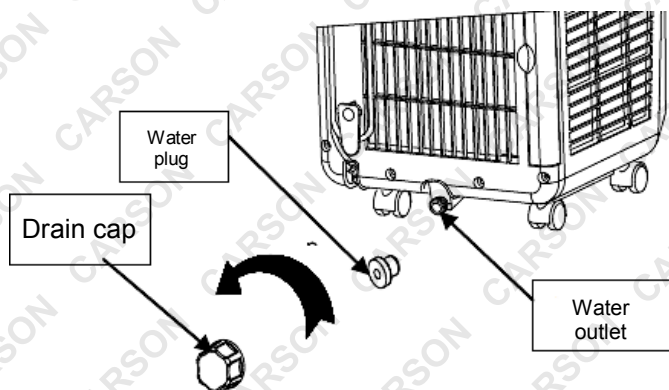

Figure 13
1. Screw off the water cap in the direction shown above and then remove the water plug (Figure 13).